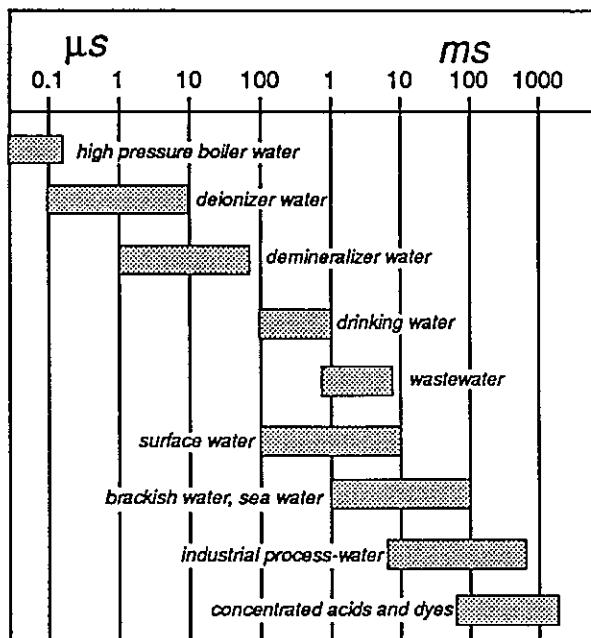

Figure 8 – Ranges of Common Aqueous Solutions
By defining the physical parameters of the measurement, a standard measure is created. The standard measure is referred to as specific conductance or conductivity, which is defined by the reciprocal of the resistance in ohms, measured between the opposing faces of 1 cm cube of liquid at a specific temperature. The units used to define conductance are:  $1/\text{ohm} = 1 \text{ mho} = 1 \text{ Siemen (S)} = 1000 \text{ mS} = 1,000,000 \mu\text{S}$ . The conductivity value is obtained by multiplying the conductance value by the cell constant. See Figure 8 for Conductivity Ranges of Common Aqueous Solutions.